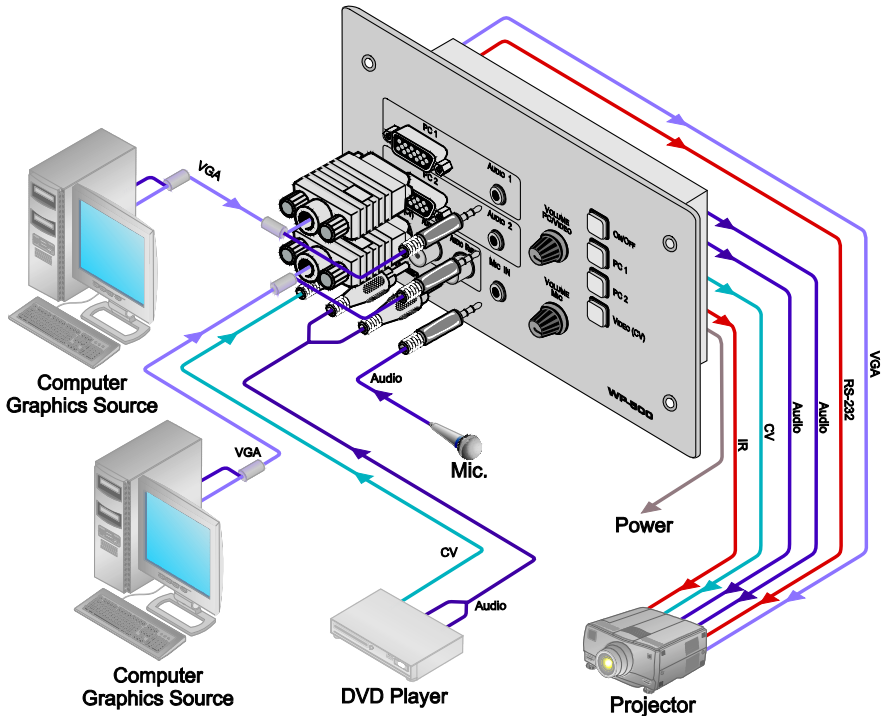
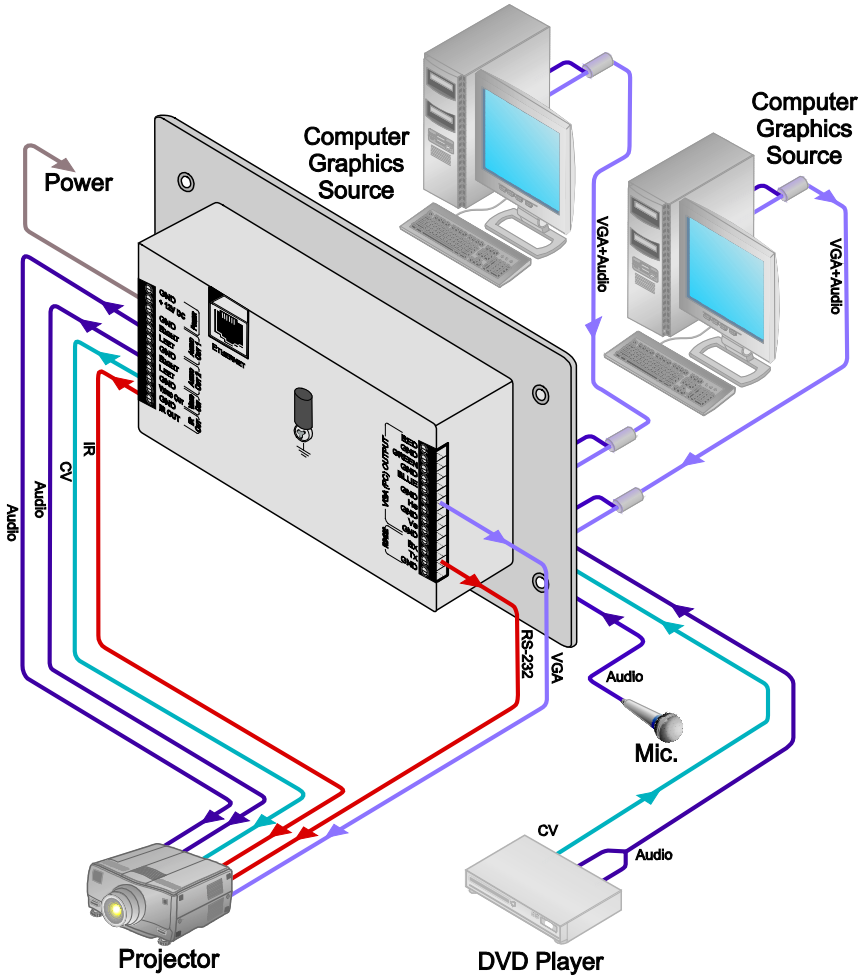

Figure 3: Connecting the WP-500 Front Panel
Figure 4: Connecting the WP-500 Rear Panel
To connect the **WP-500**, as illustrated in the example in Figure 3 (front panel) and Figure 4 (rear panel), do the following:
1. On the front panel (see Figure 3), connect:
- A composite video source (for example, a DVD player) and the audio source of that composite video source to the VIDEO (PC) RCA and AUDIO LEFT and RIGHT RCA connectors, respectively
- VGA (PC) OUTPUT to the PC Graphics (15-pin HD connector or RGBHV connector) input on the projector
3. Connect the ETHERNET port to a PC for configuration and control (not shown in Figure 4), see section 5.2.